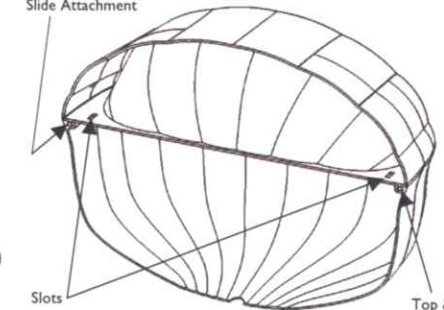
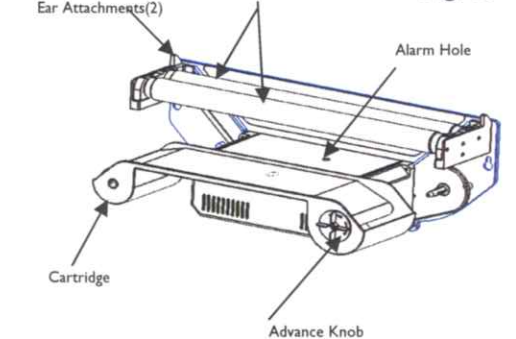

Fig. 9
Fig. 10
2. Fig. 9 is a back view of the Ultra cover shells attachment features. The top & bottom cover have slide attachments for ease of assembly, disassembly, and ease of cleaning. After top & bottom are assembled, the Back Frame (fig.10) has two ears, that fit into slots on bottom of Ultra top cover. Simply set the assembled fixture on ears.
The tacky surface of the Cartridge advances slowly and can regularly remain effective up to 60 days, depending on the volume of insect catch. (fig. 10)